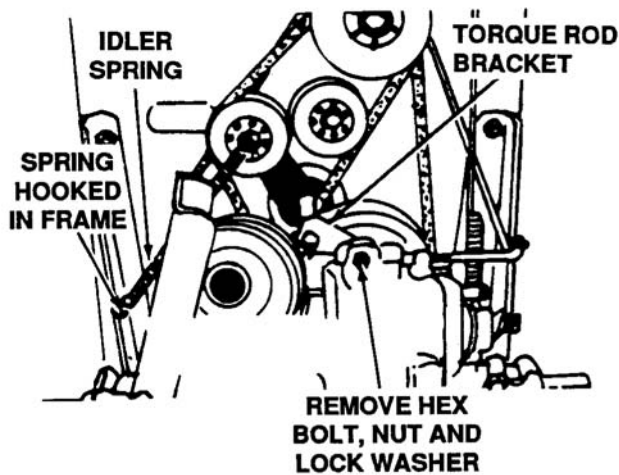

Figure 7-13. Torque Rod Bracket and Transaxle
- Unhook the idler spring from the rider frame. See Figure 7-13.